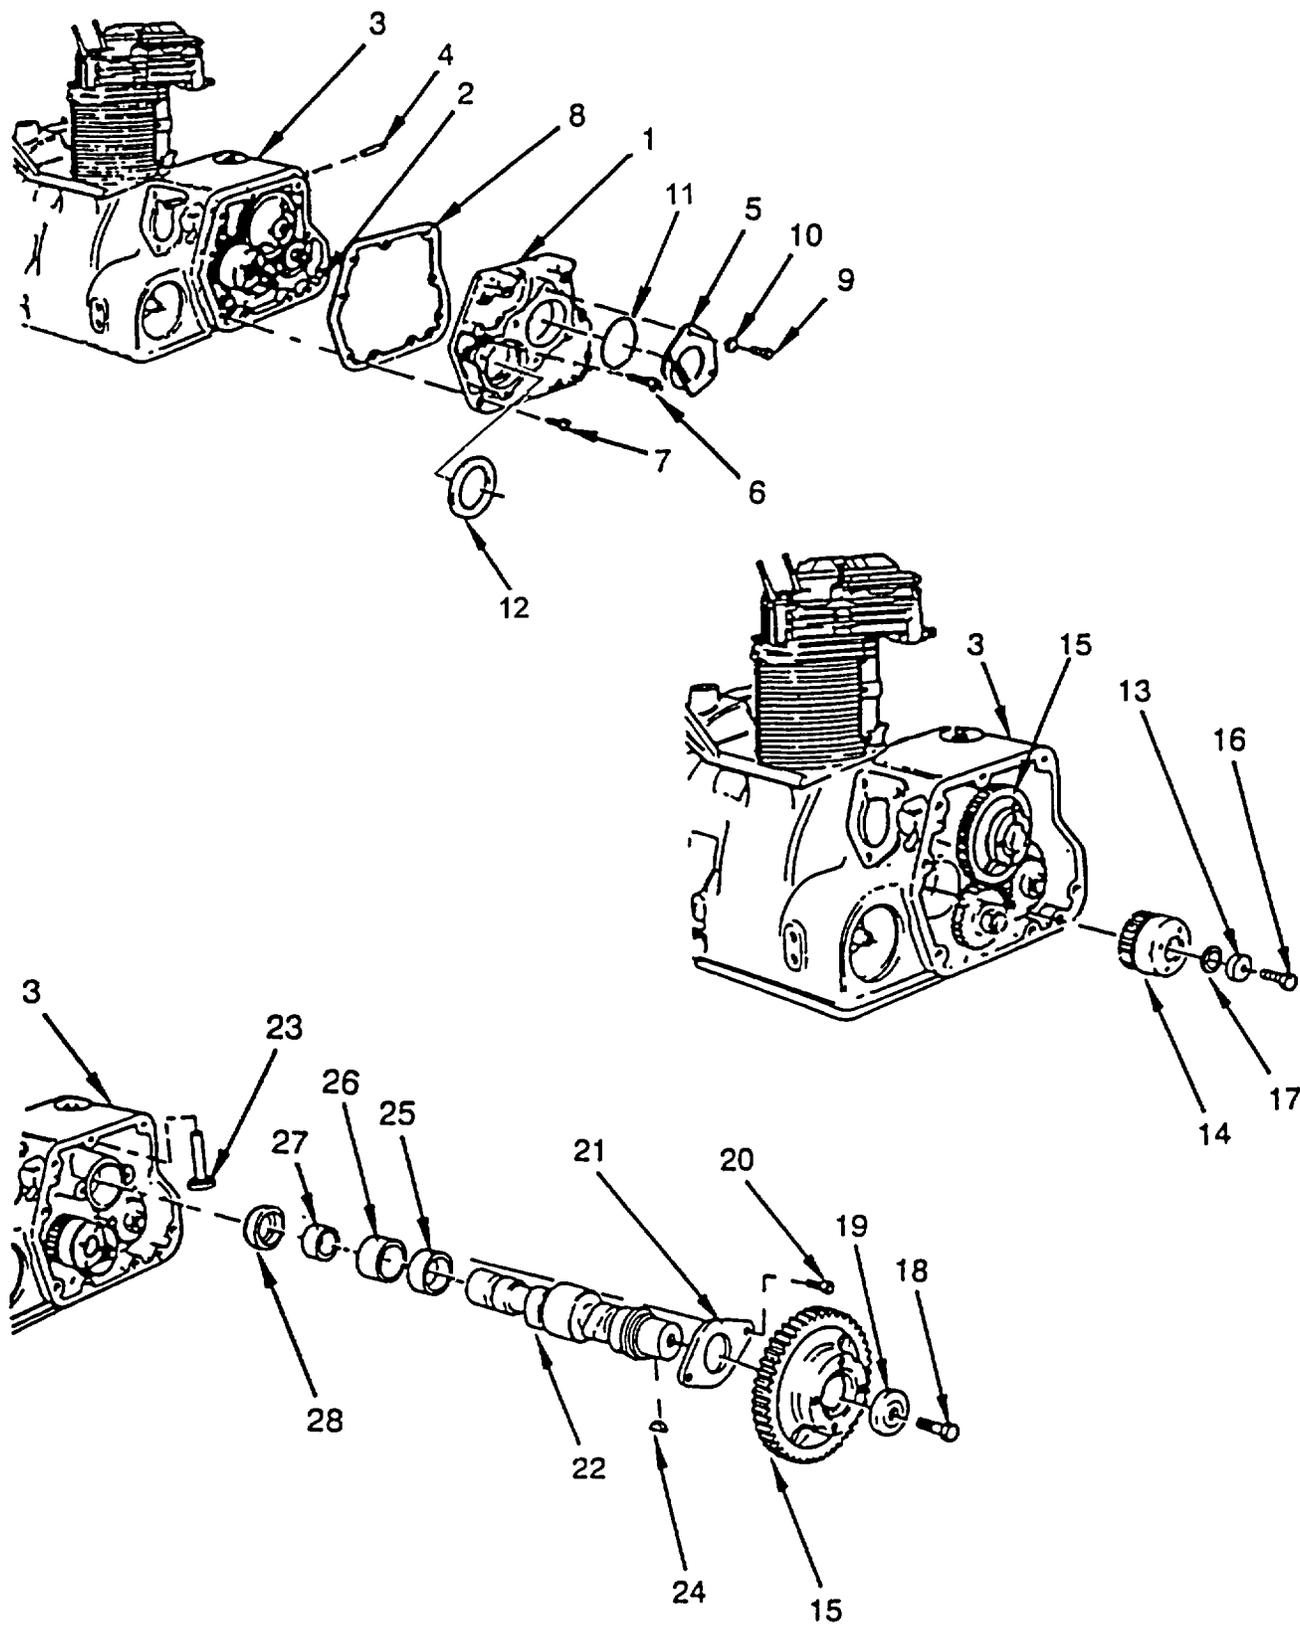

Figure 6-4. Camshaft Replacement
a. Removal. (Refer to Figure 6-4).
**Gear cover (1) is mounted on dowels (2) secured to crankcase (3). Care should be taken when removing cover (1) to prevent damage to dowels (2).**
(1) Remove fuel lift pump push rod (4) from crankcase (3).
**Do steps 2 and 3 to remove access cover (5) as required.**
(2) Remove screw (6), from crankcase (3).
(3) Remove seven screws (7), cover (1), and gasket (8) from crankcase (3).